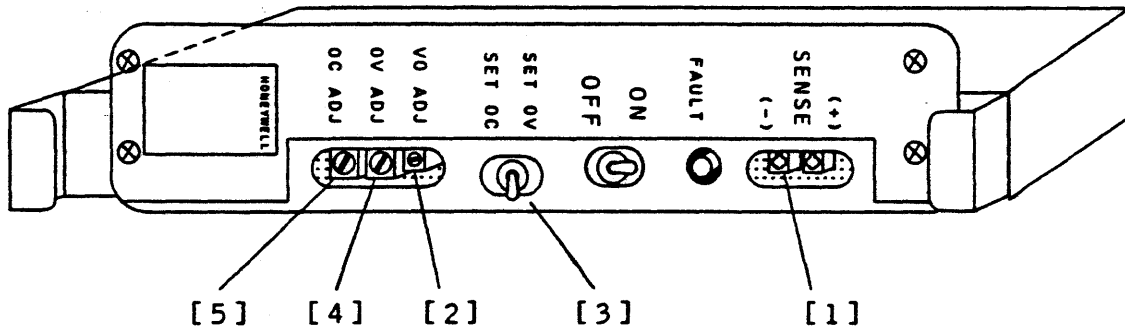

FIGURE 3.5-1. CONTROL REGULATOR (58059745) ADJUSTMENT
1. Using digital voltmeter (DC function) having insulated probe tips, carefully insert leads into respective test points (Figure 3.5-1, [1]).
3. Turn V0 adjustment until a reading of +5.0 Volts is obtained (Figure 3.5-1, [2]).
- o Position SET OV/SET OC switch in SET OV. (Figure 3.5-1, [3]).
- o Adjust the OV ADJ pot clockwise (CW) until fault lamp extinguishes (Figure 3.5-1, [4]).
- o Position SET OV/SET OC switch in SET OC. (Figure 3.5-1, [3]).
- o Adjust the OC ADJ pot clockwise (CW) until fault lamp extinguishes (Figure 3.5-1, [5]).